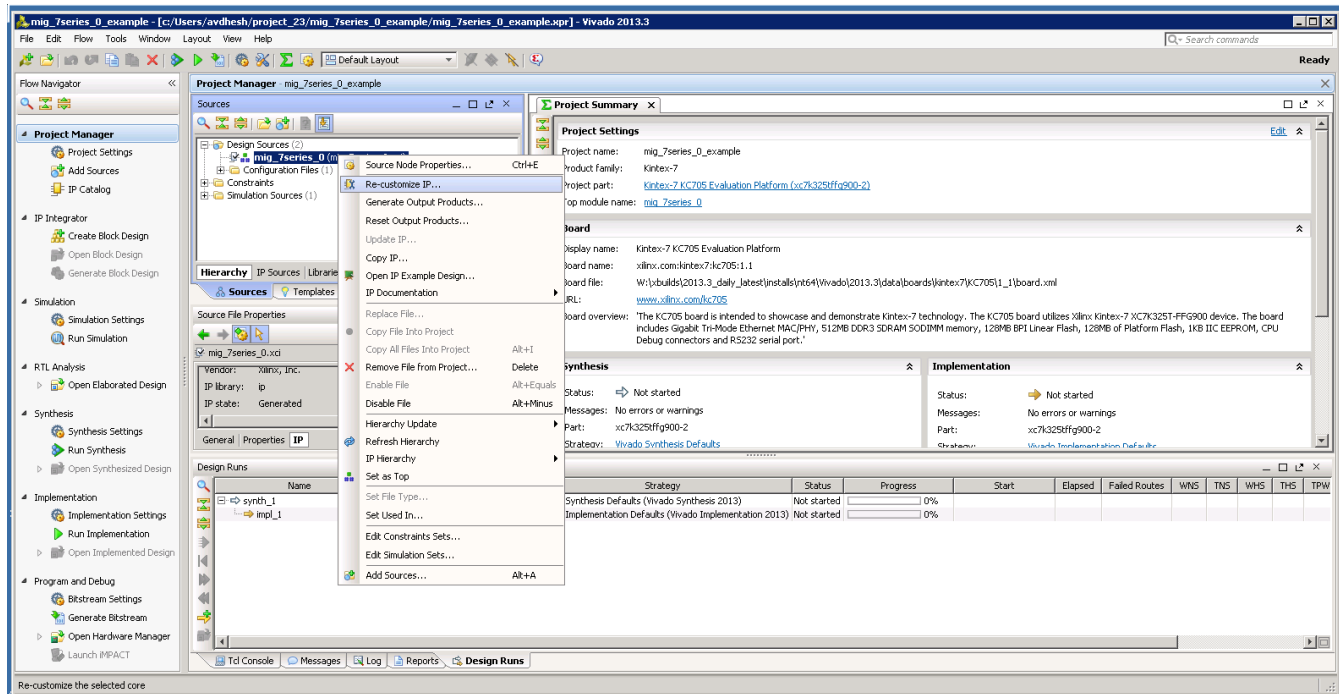

Figure 4-36: Recustomize IP
- Recustomization of the MIG IP core can be done by using the **Recustomize IP** option. It is not recommended to recustomize the IP in the example_design project. The correct solution is to close the example_design project, go back to original project and customize there. Right-click the XCI file and click **Recustomize IP** (Figure 4-36) to open the MIG GUI and regenerate the design with the preferred options.